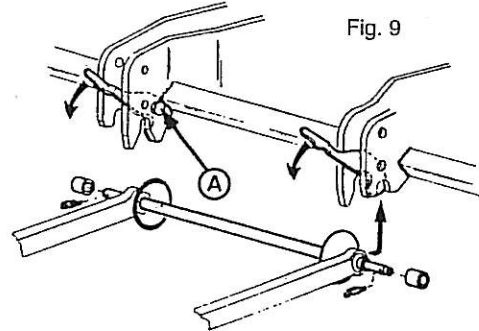

Fig. 9
1. Category III – With quick hitch (see fig. 9 & 10)
The hook pin (A), fig.9, is locked by a thread-locker (LOCTITE 243) which must be heated to loosen this pin.